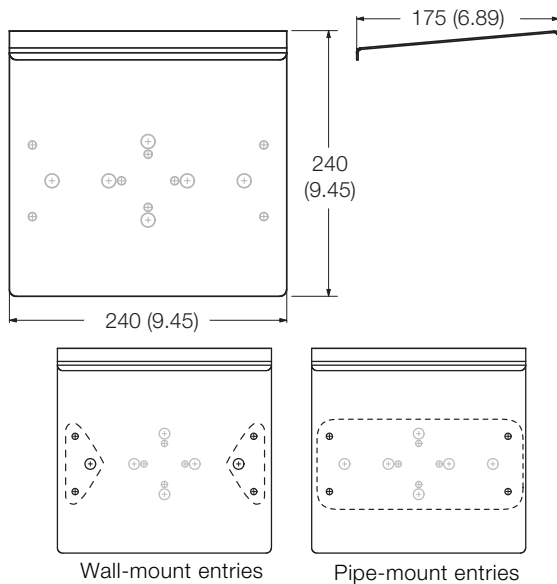

Fig. 14: Weathershield kit (pipe- and wall-mount installations)
- Weathershield kit CM40/0702 (see Fig. 14)